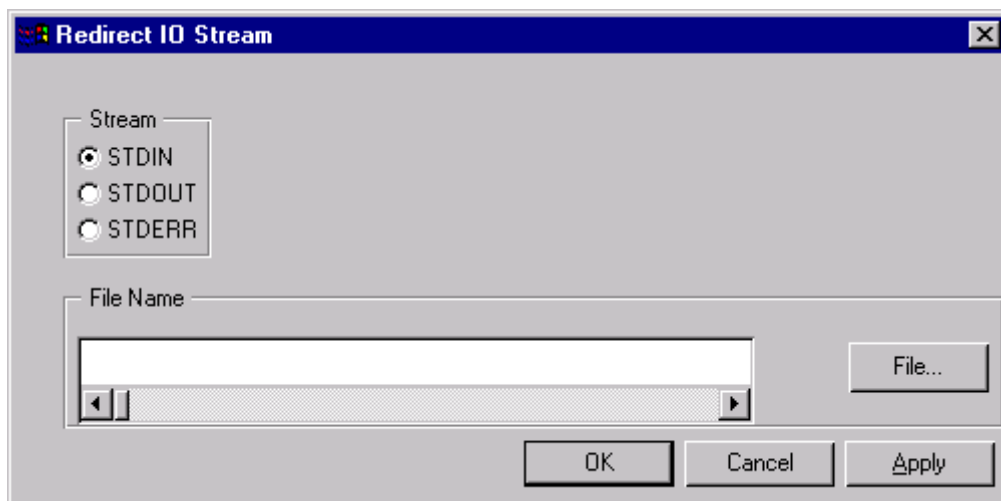

Figure 8-5. Redirecting the I/O Stream
1. From the **File** menu choose **IO Redirect**, then select **Streams**. The dialog box in Figure 8-5 appears.